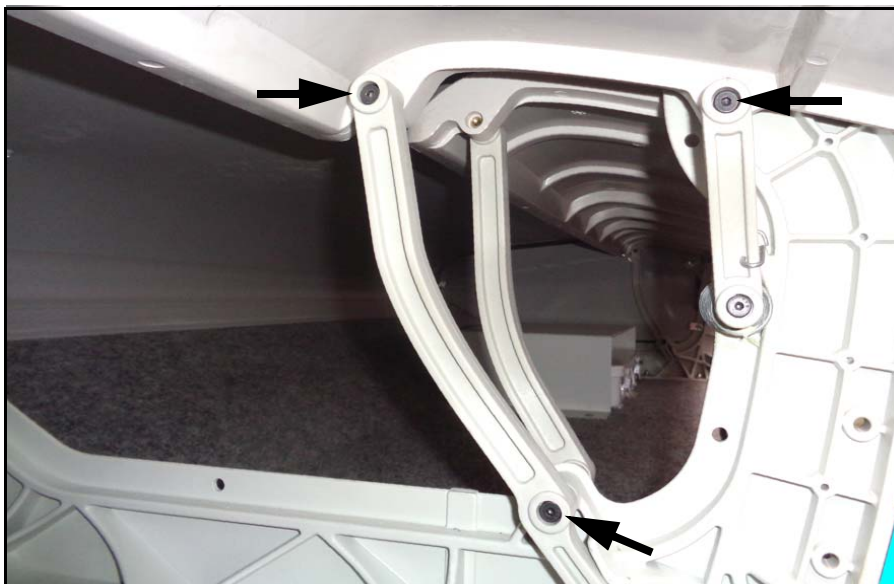

Figure 5.
8. Locate the three ( 3 ) shoulder bolts for the short and long door links shown in Figure 5.